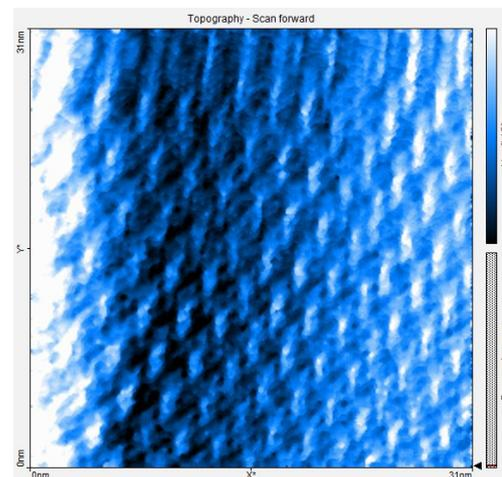

Fig. 15.4-9 CDW on TaS2 at (31 nm)2
5. Zooming into a clean terrace, you should be able to see the CDW at a resolution of about (30 nm)2 (fig. 15.4-9)